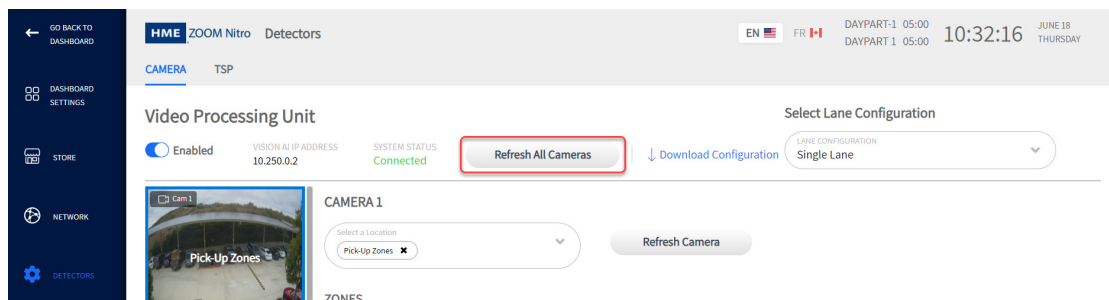

Fig. 4.5
- The Camera page will populate. Click/tap the “Refresh All Cameras” button (Fig. 4.5).